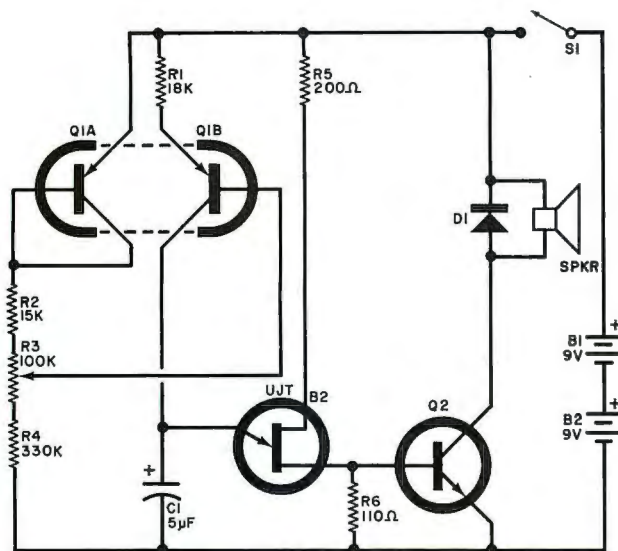

Fig. 2. Metronome circuit has a nearly linear tempo control and loudspeaker output.
**Reader's Circuit.** In the majority of metronome circuits using simple R-C timing networks, the tempo (frequency) adjustment has most of its control "squeezed" near one end of the operating range. Seeking to minimize this problem, reader Richard K. Brush (1965 East 3375 South, Salt Lake City, UT 84106) decided to develop his own design for a metronome. His circuit (Fig. 2) features a nearly linear tempo control, loudspeaker output, and, interestingly, discrete devices rather than an IC.